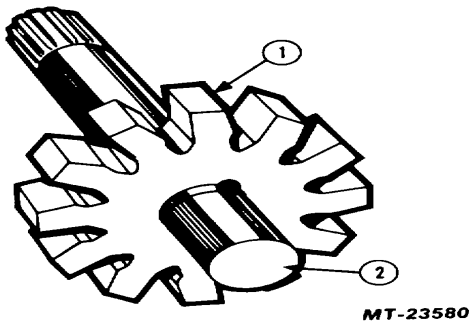

Fig. 33 Proper Carrier Orientation
6. If shaft and carrier assembly or any of the individual components of the shaft and carrier assembly are being replaced, check orientation of the carrier on the shaft. Looking at the rear of the shaft (opposite driven end), the carrier teeth should be angled to the left as shown in Figure 33 for clockwise pumps and to the right for counter clockwise pumps. Two snap rings are used to hold the carrier to the shaft. Snap rings must be assembled in the grooves closest to each carrier end.